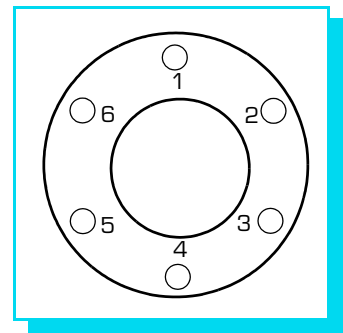

Figure 3-2 ConFlat Flange Bolt Locations.
- After finger tightening all bolts, continue tightening about 1/8 turn in crisscross order, e.g., 1, 4, 2, 5, 3, 6, 4, 1, 5, 2, 6, 3, 1.... until the flanges are in contact. After contact, further tighten each bolt about 1/16 turn. See Figure 3-2 on page 3-2.